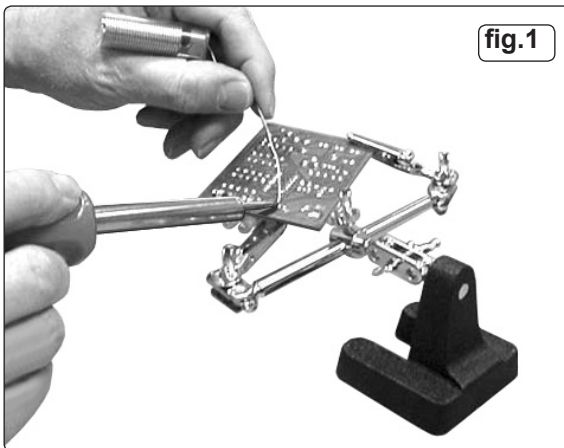

fig.1
4.1.5. **Holding the work.** Ensure that the items to be soldered are readily accessible and firmly held. The stand provided can be used to hold two items together for soldering leaving both hands free to manipulate the iron and the solder. (See fig.1)
4.1.6. **Soldering.** Bring the soldering iron and the solder to the joint simultaneously. (See fig.1) Leave the iron on the joint just long enough to melt the solder so that it flows onto the two parts to be joined. Remove the iron and place it on the stand. Leave the joint to cool.
- 4.2.4. **Holding/preparing the work.** Ensure that the items to be joined are clean and securely held together. The stand provided can be used for this purpose (See fig.1) Where possible a good joint will more easily be obtained if the items to be joined are tinned separately first.